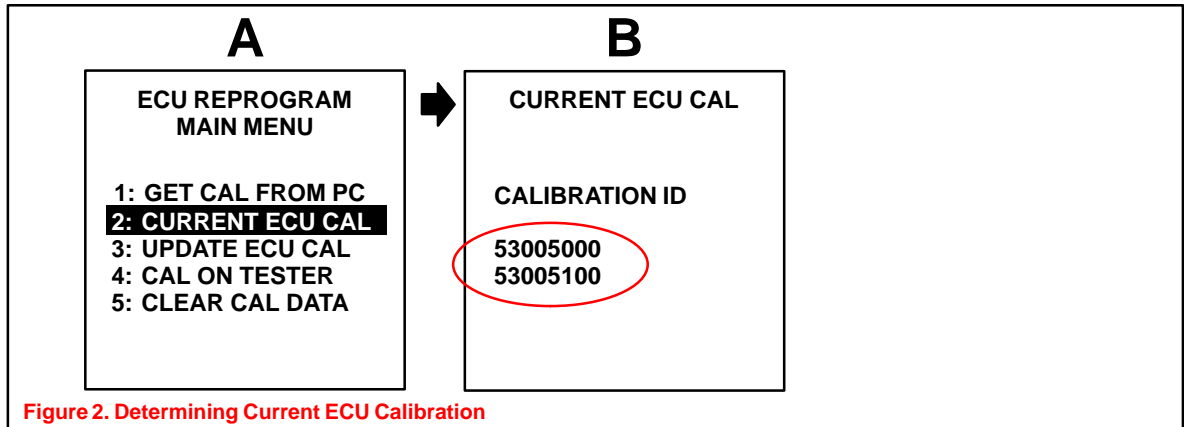

Figure 2. Determining Current ECU Calibration
2. Connect the Diagnostic Tester to the vehicle and select CURRENT ECU CAL from the ECU REPROGRAM MAIN MENU. Determine the vehicle’s current ECU calibration (see Figure 2).
2. Connect the Diagnostic Tester to the vehicle and select CURRENT ECU CAL from the ECU REPROGRAM MAIN MENU. Determine the vehicle's current ECU calibration. (See Figure 2 on page 2.)